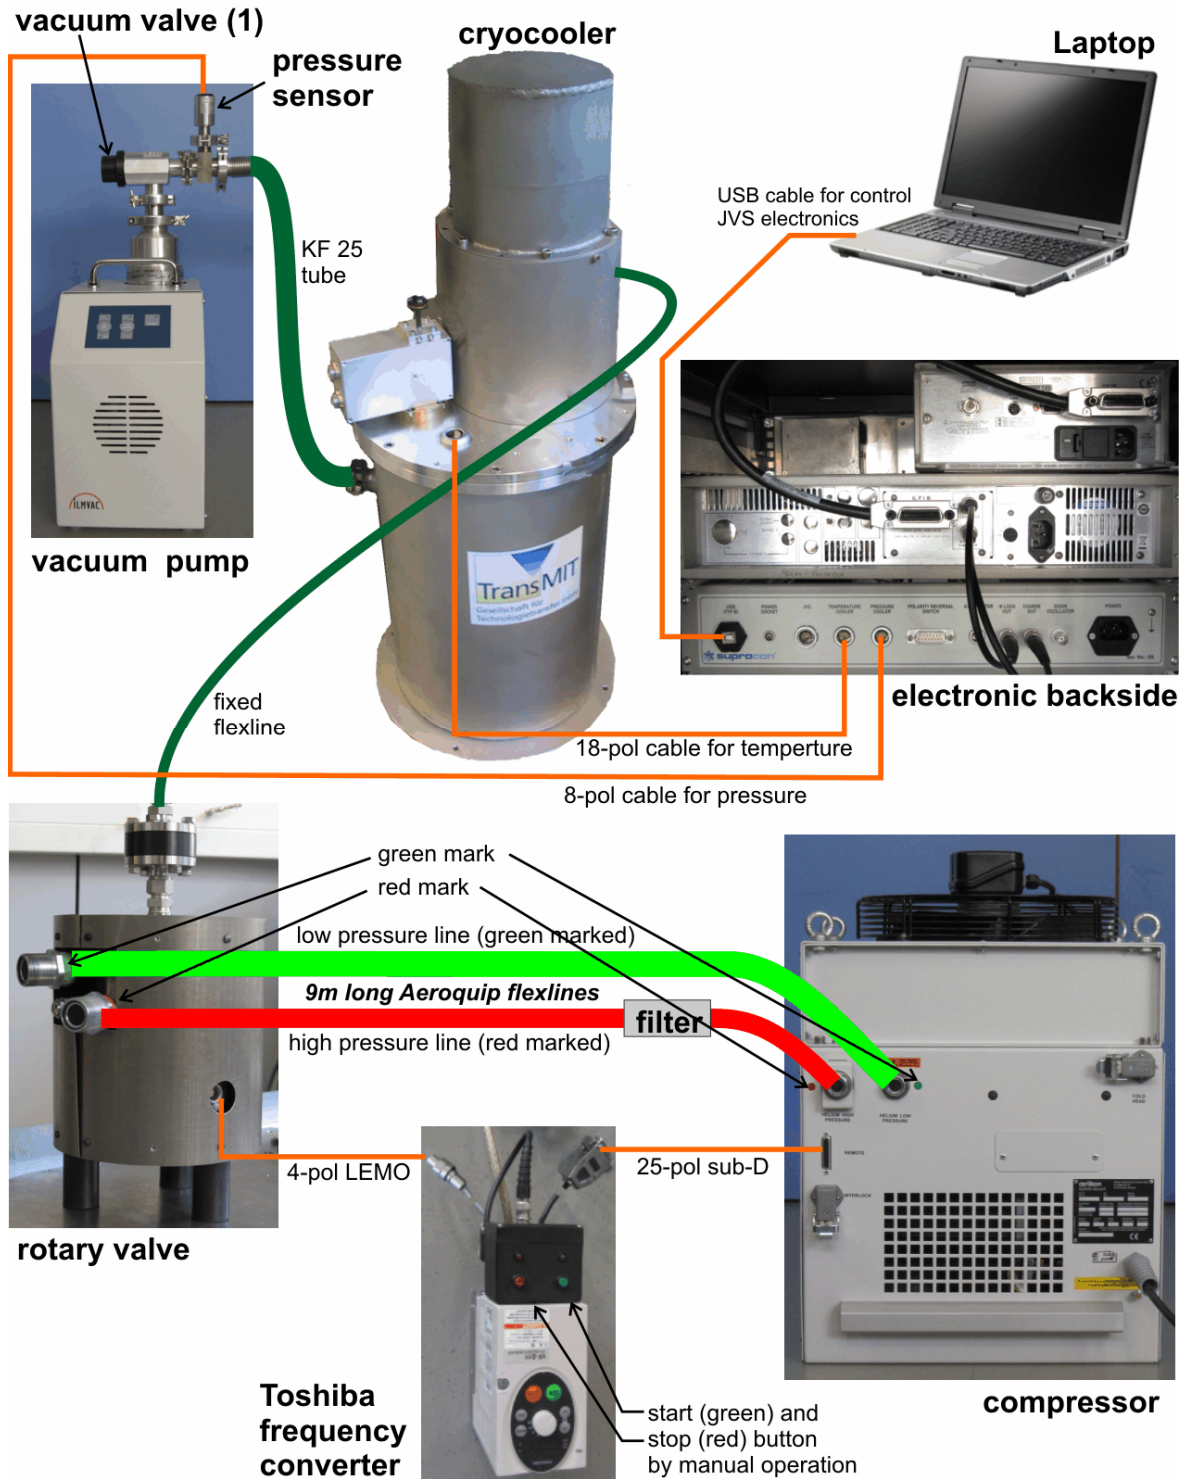

Figure 17: The interconnections of the cryocooler components.
- A rotary valve to establish a cycling change in the helium gas pressure, see Figure 17.
- The Toshiba frequency converter to run the rotary valve of the cryocooler, see Figure 17.
- A vacuum pump with valve and pressure sensor to evacuate the cryocooler chamber, see Figure 17. The manual of the pump is attached.
Before you can start the cool down process, connect the cryocooler components as shown in Figure 17 and follow the instructions below.
- 1.1 Switch on Laptop and control electronics unit and connect the temperature and pressure cables, as well as the USB cable to the computer, see Figure 17.
- 2.3 After 10 minutes open the vacuum valve (1) carefully, see Figure 17
- 3.1 Connect the compressor CP2000 to the rotary valve by means of the Aeroquip flexlines as shown in Figure 17. The filter cartridge with Aeroquip connectors should be connected to the high-pressure outlet at the compressor.
- 3.2 The Toshiba frequency converter must be connected to the rotary valve motor via the delivered power cable with the 4-pole-Lemo connector, see Figure 17. Connect the Toshiba frequency converter to the remote connection of the compressor unit via the 25-pin Sub-D cable. Connect the frequency converter to the mains supply.
You can start the rotary valve manually by pressing the green button of the Toshiba frequency converter, see Figure 17.